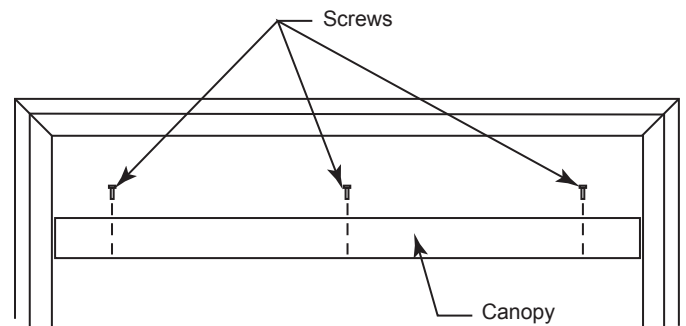

Figure 18 - Install Canopy
2. Align the black canopy with the holes in the top frame assembly. *Figure 18*
3. Install the three (3) screws (in owner's manual packaging) which attach the canopy to the top frame assembly. *Figure 18*